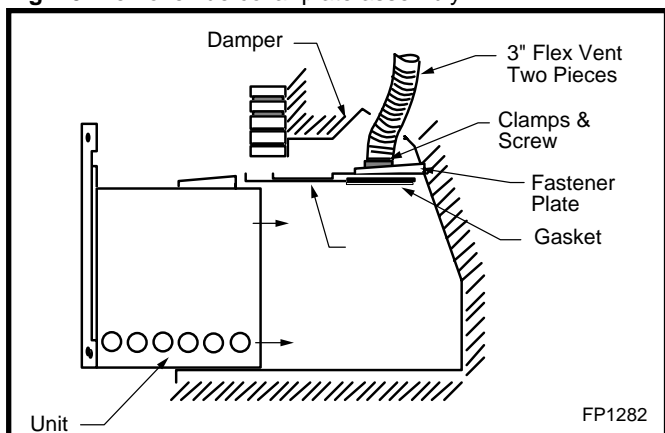
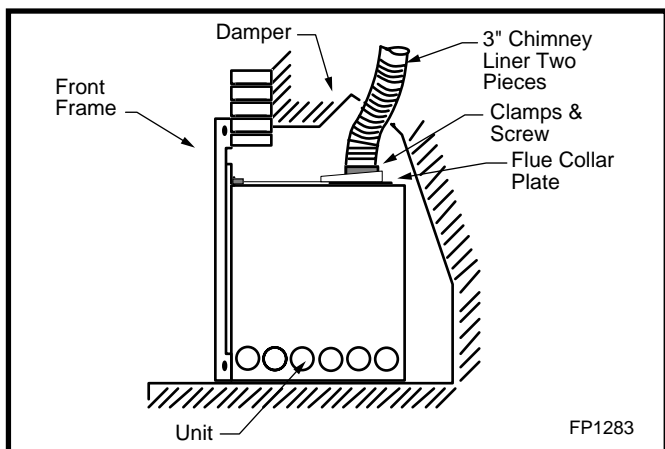

Fig. 11 Apply high temperature sealant to end of collar.
Fig. 12 Fasten with two clamps, adjust fastener plate all the way back.
2. Apply a bead of hi-temp sealant on the end of the collar before attaching the liner to the flue collar. Fasten it with two clamps then adjust fastener plate all the way to the back before sliding flue gas plate back onto the unit. (Fig. 11 and Fig. 12)